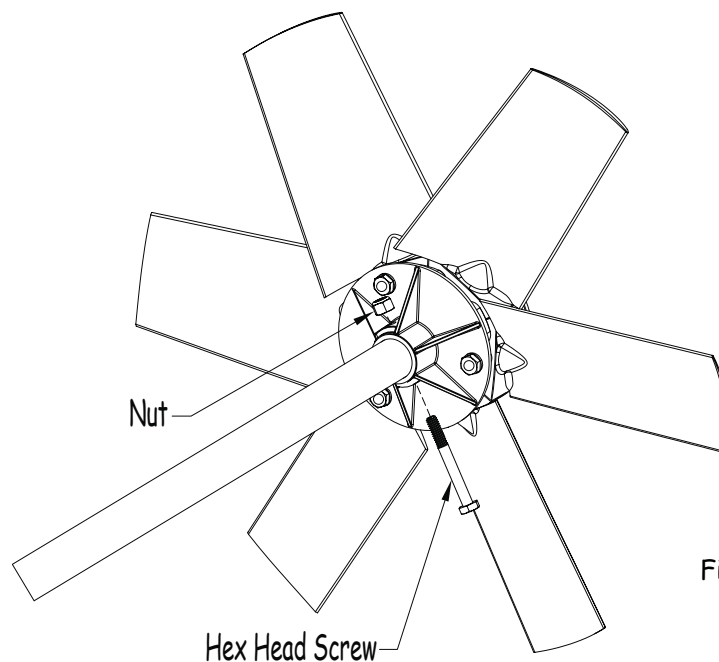

Fig 24
23. Remove the hex head screw and nut from the drive propeller (Fig 24).